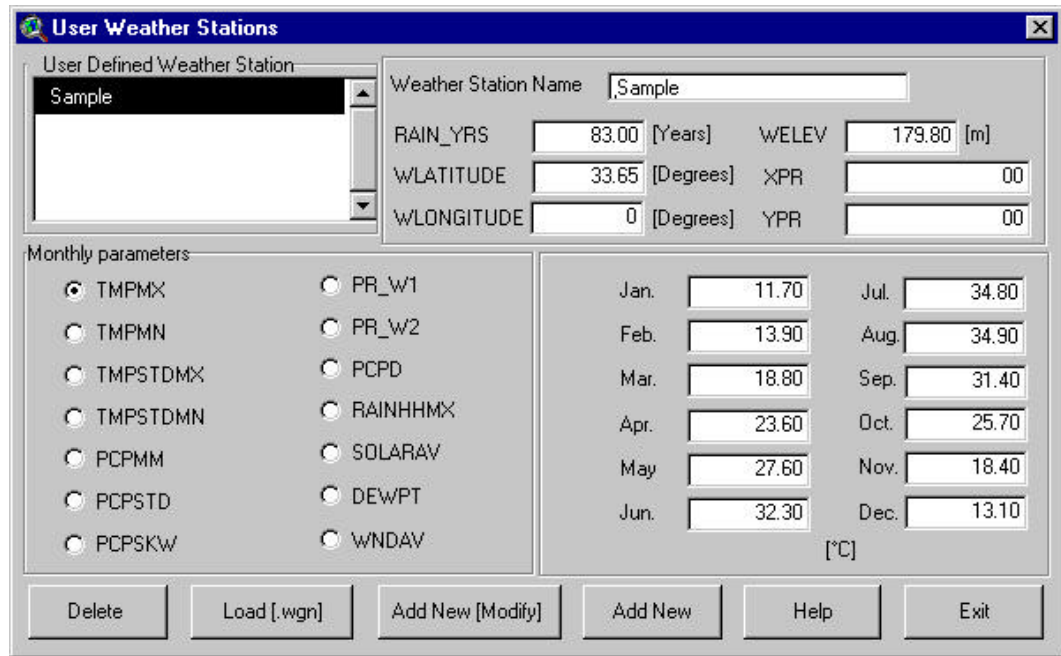

Figure 14.16
- b. The data for the weather station will be displayed (Figure 14.16). A complete description of the parameters is provided in the *Soil and Water Assessment Tool User's Manual, Version 2000, Chapter 13*.